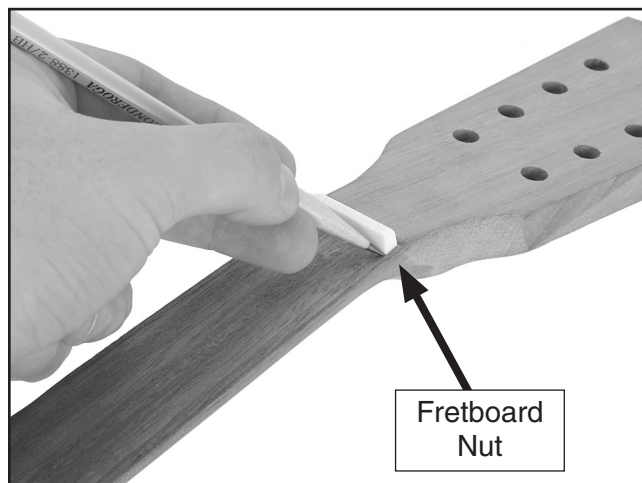

Figure 9. Marking the nut position.
8. Place the nut at the end of the neck so it is straight across as shown in **Figure 9**, and draw a line along the bottom edge of the nut. Do not place the nut on the pegboard, the piece that slopes downward from the neck.